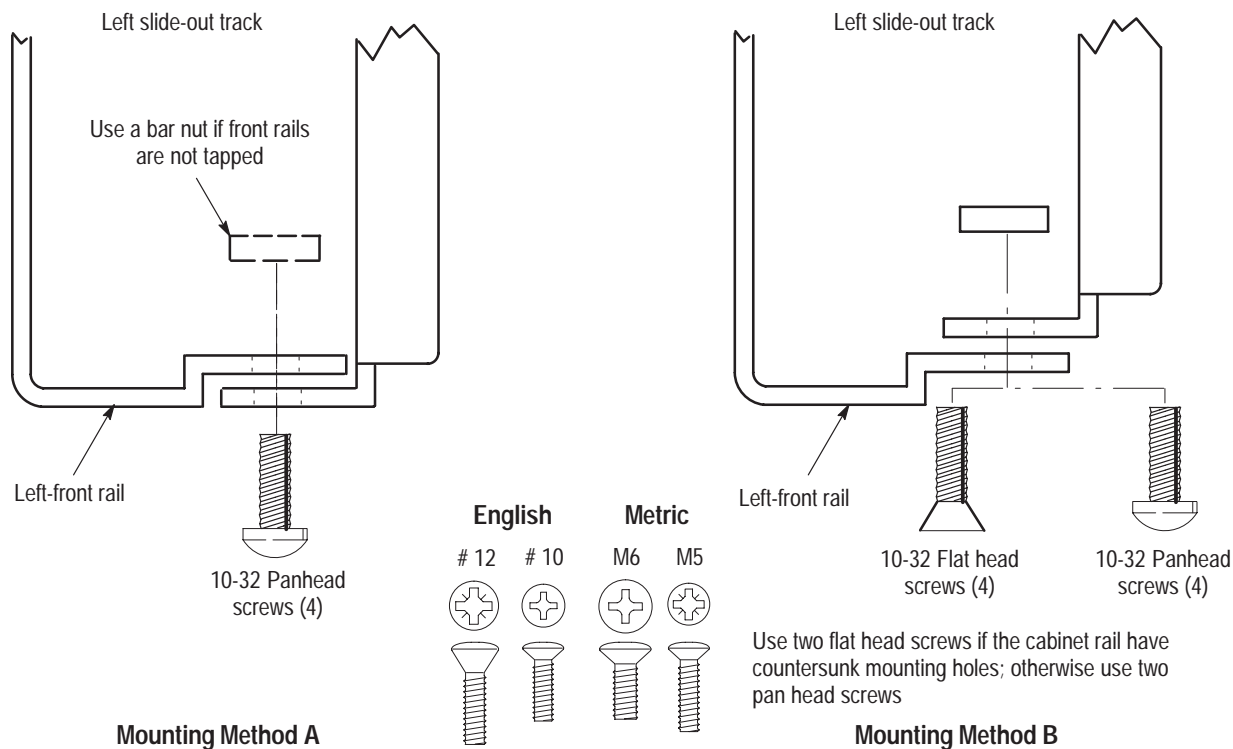

Figure 11: Installation of slide-out track assemblies in rack (top view)
- To mount the slide-out tracks with their front and rear flanges outside of the front and rear rails, use the method A shown in Figure 11 when doing substep c. Add a bar nut to the installation only if the rails have untapped holes.
- To mount with front and rear flanges inside of rails, use the mounting method B outlined in Figure 11. This mounting method assumes untapped holes.